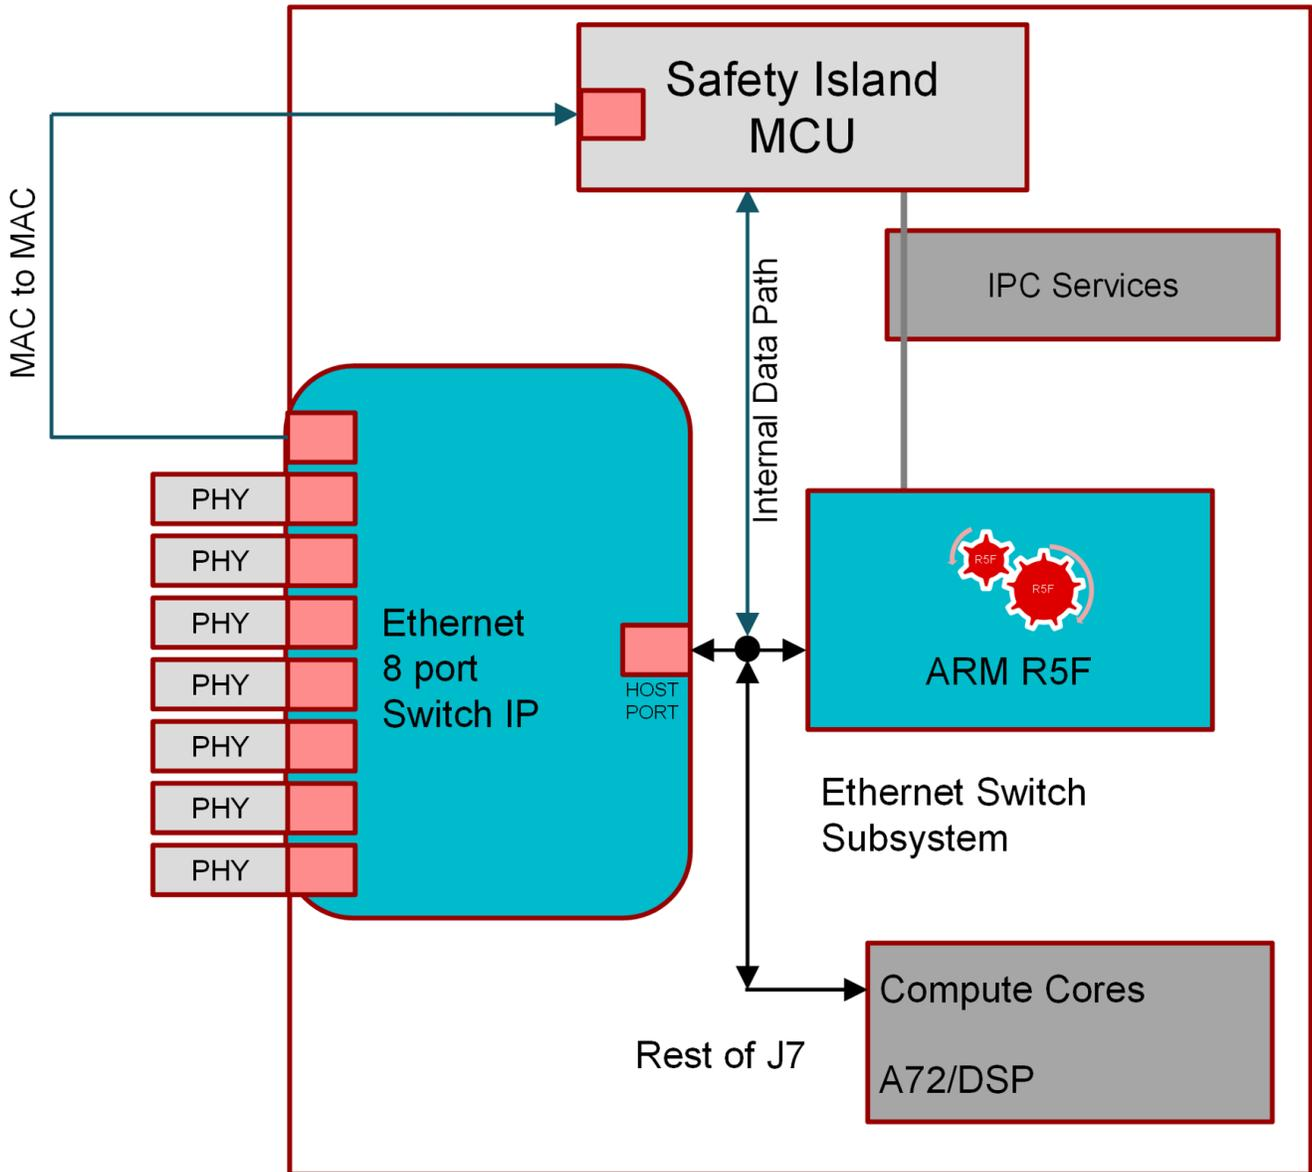

Figure 2-4. CPSW9G and CPSW2G MAC2MAC
1. Jacinto7 is divided two parts, MCU domain and Main domain. CPSW2G is usually allocated to MCU domain while CPSW9G is usually used by main domain cores, A72 and R5F. The MCU domain usually uses AUTOSAR OS due to functional safety requirements. In addition to the internal data path, from the outside, it is also very convenient to connect to the two switches via MAC2MAC. The system architecture is shown in Figure 2-4.